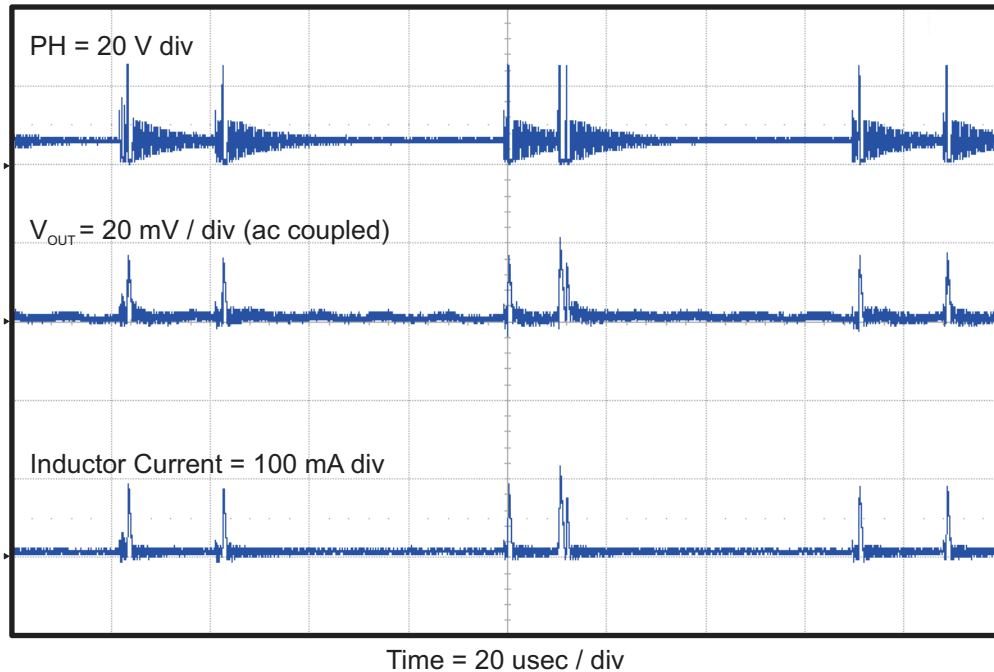

Figure 10. TPS5401EVM-708 Eco-mode™ Operation
Figure 10 shows Eco-mode operation; channel 1(C1) shows the switching node (PH) voltage, whereas channel 2(C2) shows the output voltage, and channel 3 (C3) shows the inductor current.